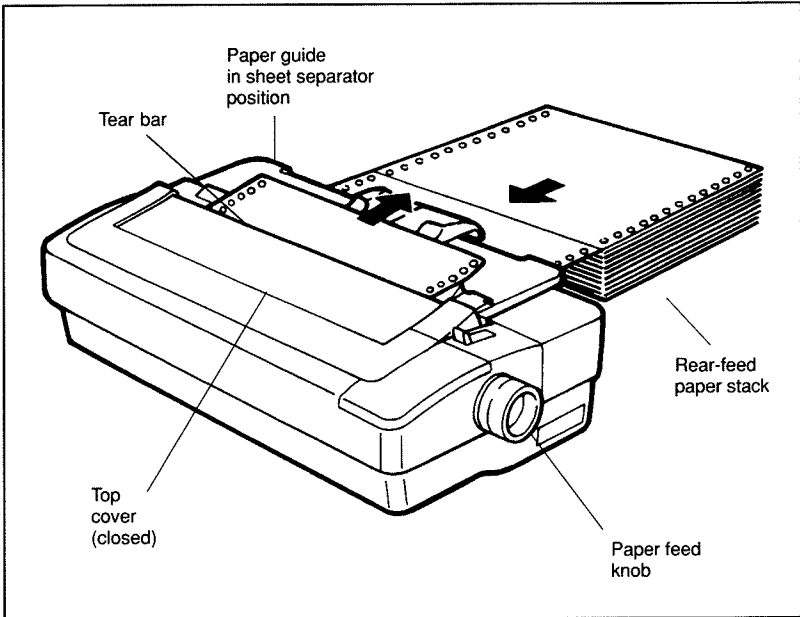

Figure 3-8. Continuous paper feeding into the rear of the printer.
7. Move the paper holders from the sides into the middle of the paper guide. This prevents your printed output from becoming accidentally jammed in the paper guide on its way out of the printer. See Figure 3-8.